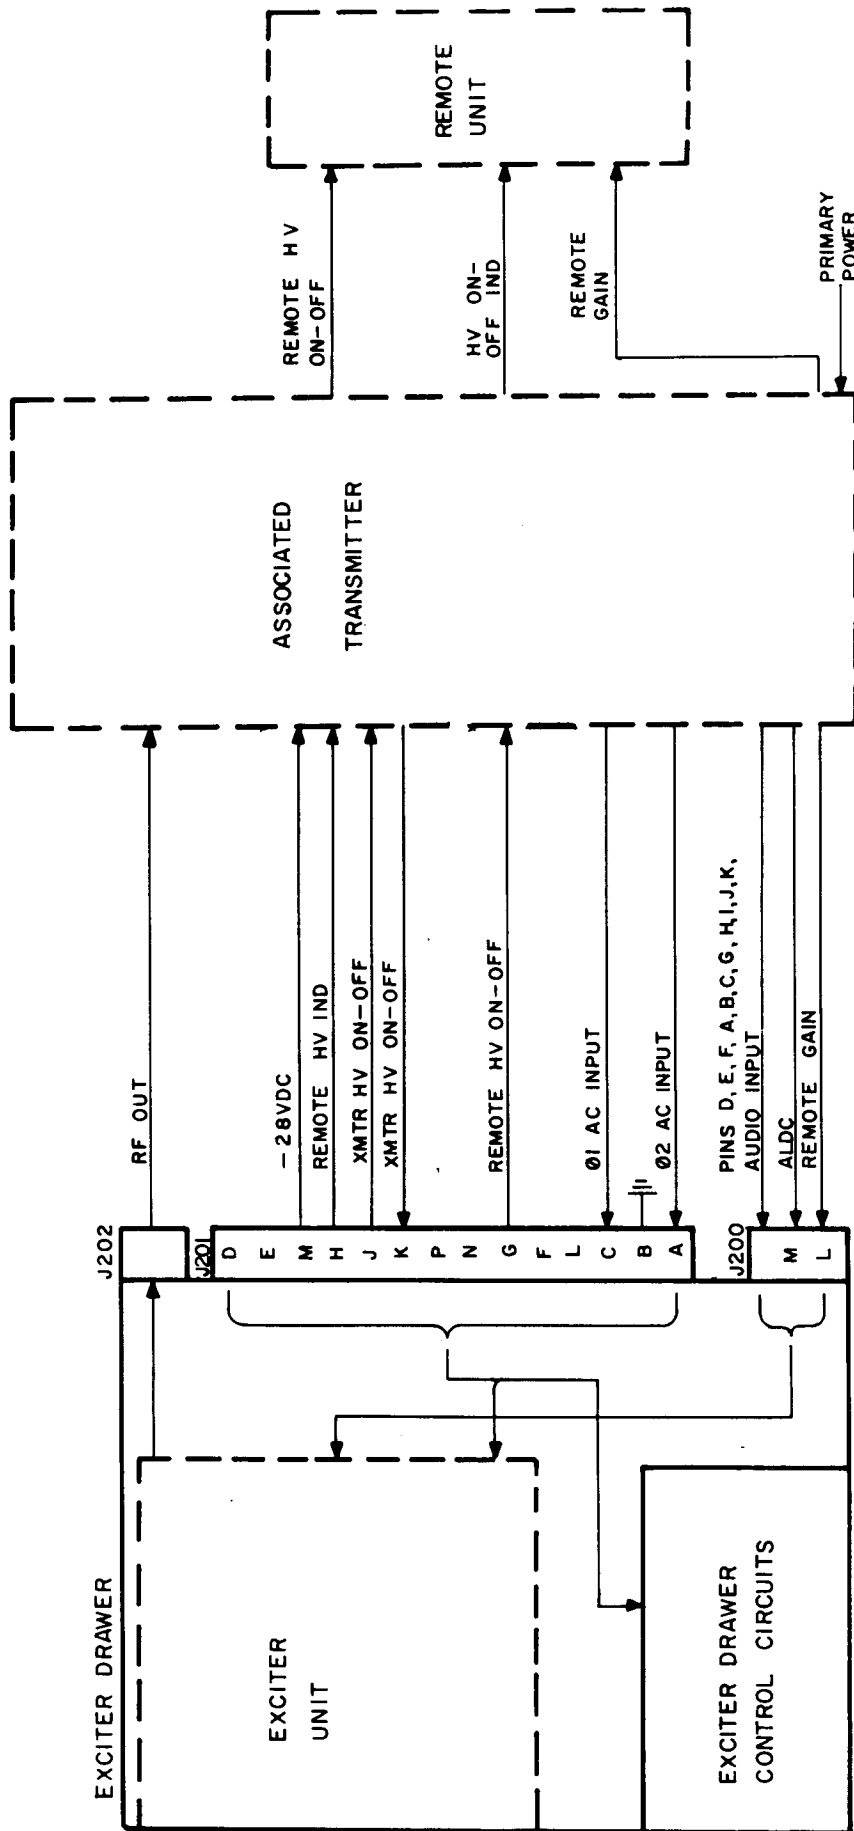

Figure 4-1. Interequipment, Functional Block Diagram
- 6) Figure 4-1, is no longer applicable, refer to revised Functional Block Diagram attached to addendum.
4-1. GENERAL (Refer to Figure 4-1).